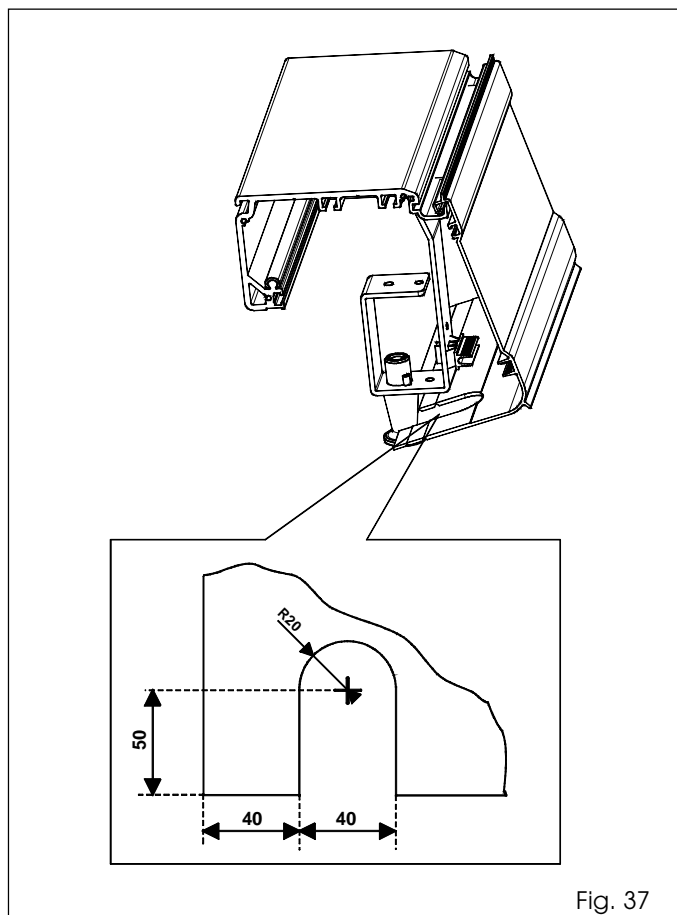

Fig. 37
N.B.: To ensure correct closure of the housing, if using the internal release, shape the housing to the dimensions in fig. 37.